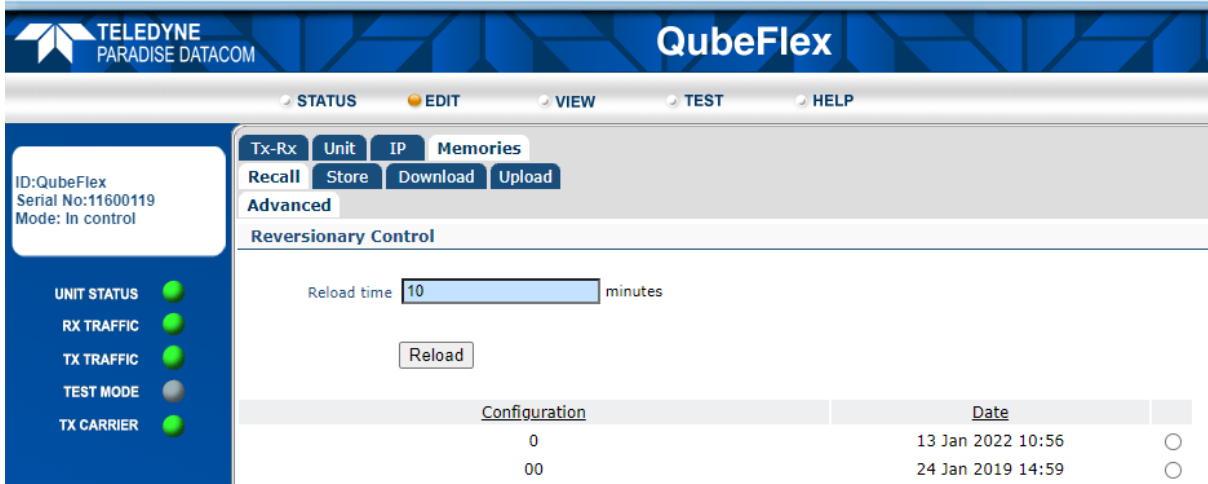

Figure 6-27 Edit->Memories->Advanced Reversionary Control Screen
The *Edit->Memories->Recall->Advanced* screen (shown in **Figure 6-27**) supports a method for recovering a remote modem from a failure during a change to the modem's configuration. In essence, this works in a similar way to the Cisco Reload command, where a known, trusted, configuration is loaded after a defined timeout period in the event that the reload operation is not cancelled by the operator in a timely manner after completing the necessary configuration changes.
6. After completing the configuration changes, navigate back to the *Edit->Memories->Recall->Advanced* screen and cancel the timeout by clicking on the *Cancel* button. The screen will now revert to its original format shown in **Figure 6-27**.